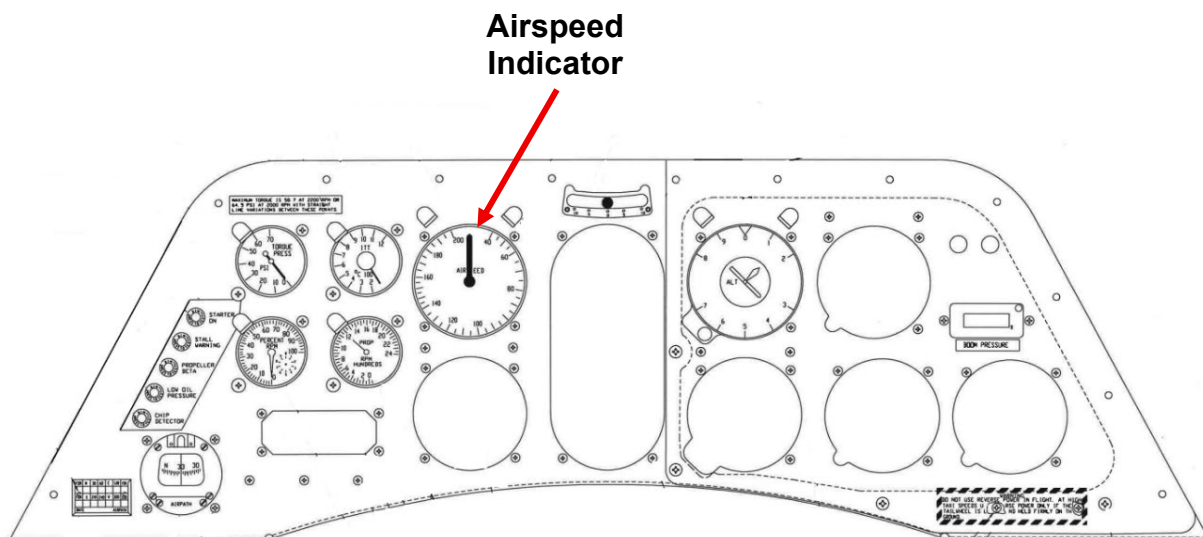

Figure 45-4
1. Original Airspeed Indicator Removal: See Figure 45-4 and 45-5.